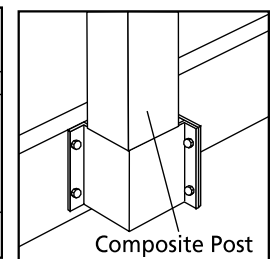

Figure 13
7. Insert post into bracket until bottom of post contacts stop tab on bottom of bracket (Figure 13).